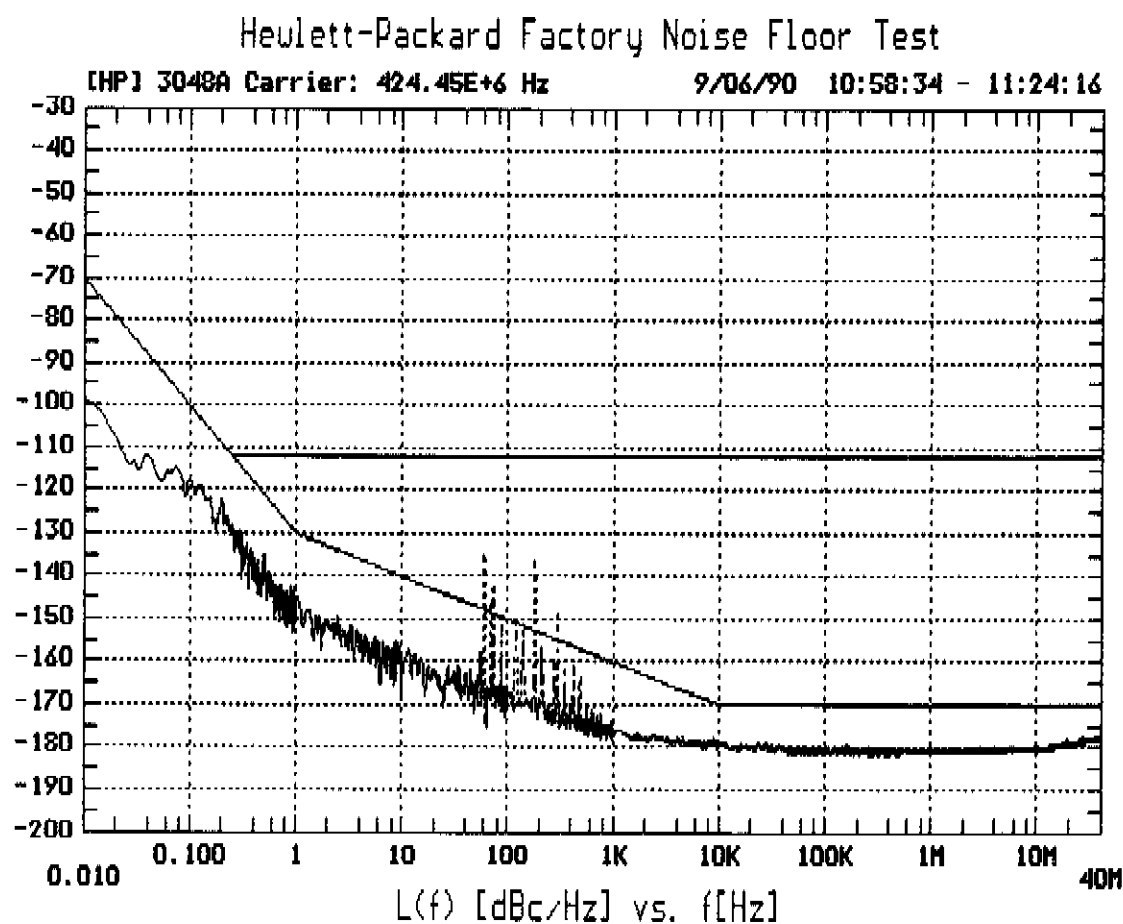

Figure 8. Typical Noise Floor Test Results
5. Press **[F1]**. The measurement should proceed automatically without error messages and the measured noise should be similar to that shown in Figure 8. (The measurement takes about 30 minutes depending on the controller and the presence of the RF spectrum analyzer.)